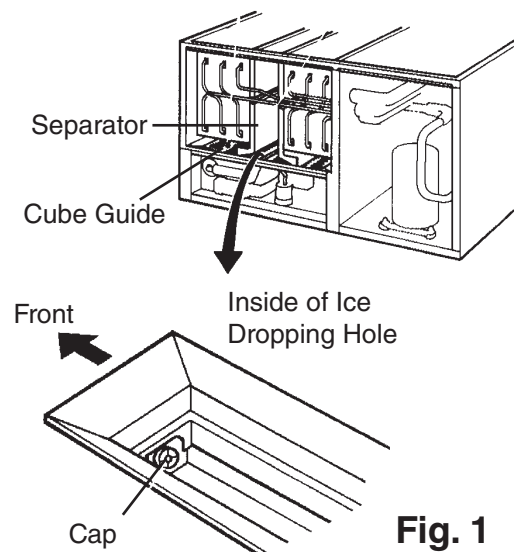

Fig. 1
- 3) Remove the drain plug located on the lower front part of the ice dropping hole. Allow the water tank to drain. See Fig. 1.